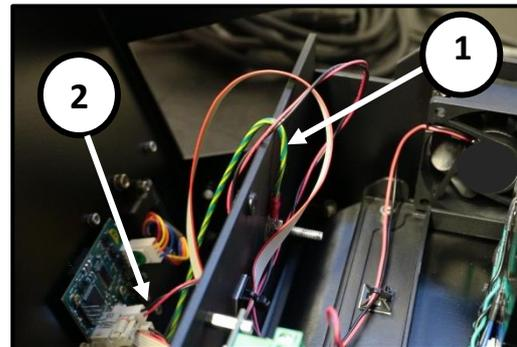

FIGURE 30 : REMOVING THE UPPER PART (1/3)
- Unplug the Stepper Motor power cable (2) (Figure 30)